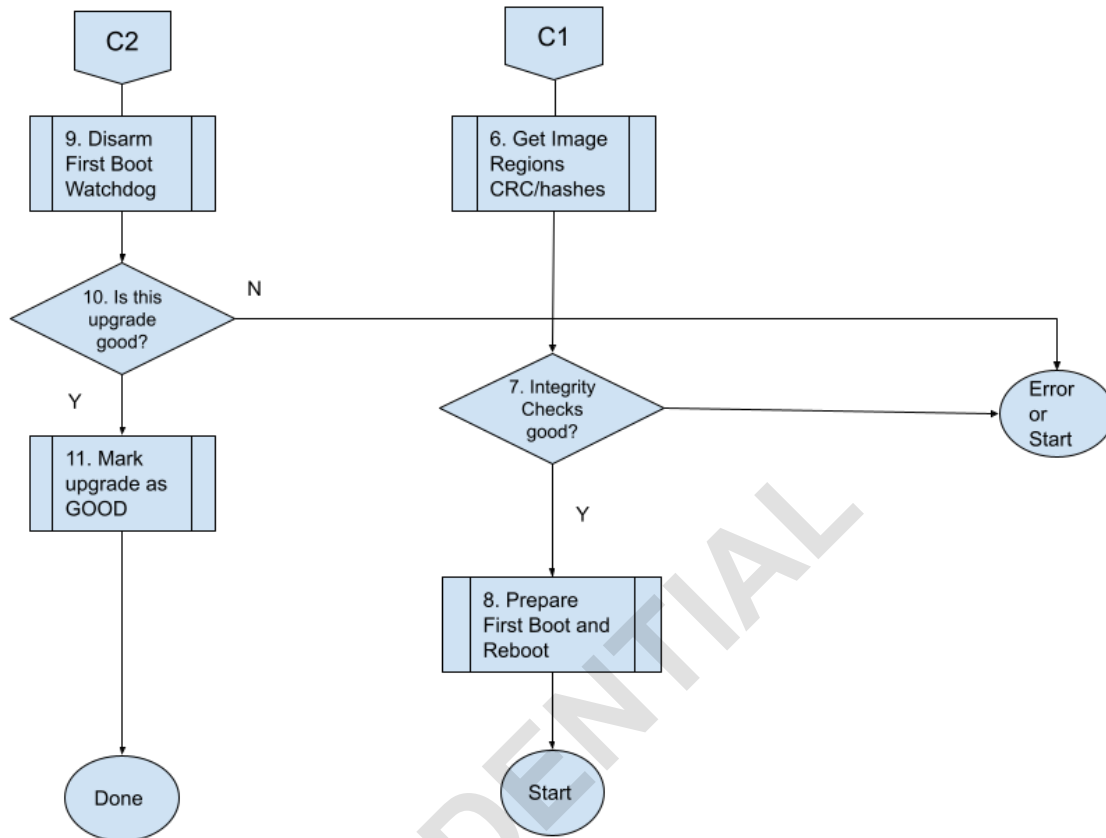

Figure 3 - Image Upgrade Flow Diagram
- Figure 3 - Image Upgrade Flow Diagram